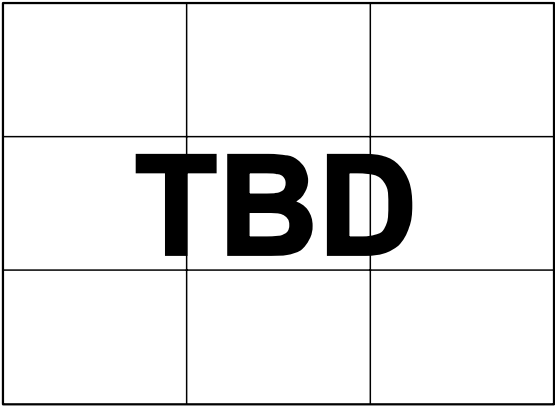

Figure 15. THD, ENOB vs. Frequency
- For ac applications, the driver needs to have a THD performance suitable to that of the AD7684. Figure 15 shows the THD versus frequency that the driver should exceed.